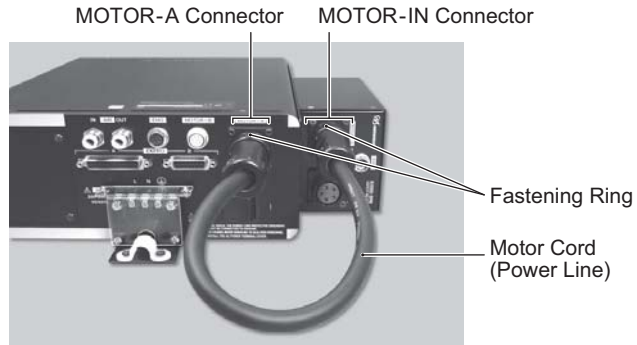

Fig. 6
- ③ Insert the provided Relay Cord Plug into the MOTOR-A Connector of the CONTROLLER and the MOTOR-A IN Connector of the SAFETY RELAY BOX. Secure the Fastening Ring turn the clockwise (Fig. 6).